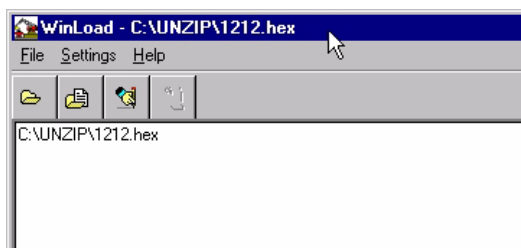

Figure 13: Open File in WinLoad
Once you have selected your file, the name should appear in the main display area and in the title bar, see *Figure 13* below.
3. Make sure the file path and file name are displayed in main display area, see *Figure 13, Open File in WinLoad on Page 50*.